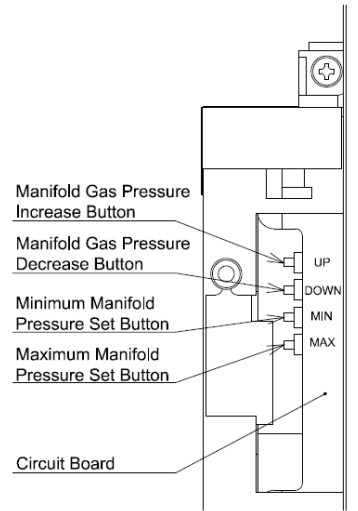

FIGURE 10
- 9) Once the heater has ignited and has begun to run continuously, locate the manifold adjustment buttons on the right side of the circuit board (FIGURE 10).